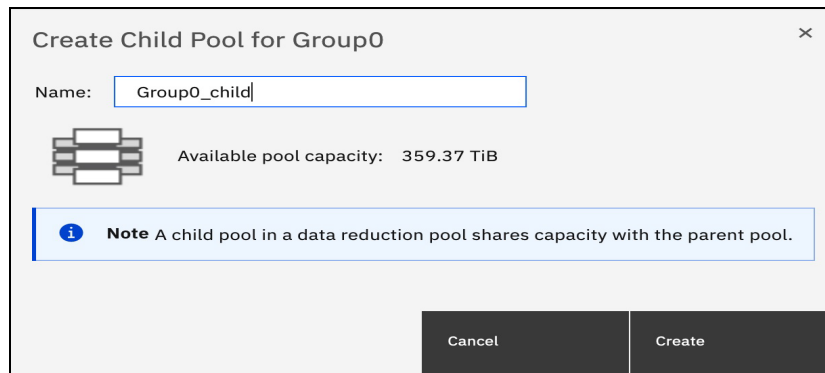

Figure 4-10 Create child pool page
2. Create a Data Reduction child pool, as shown in Figure 4-10 on page 148:
- d. Enter a name for the child pool, as shown in Figure 4-10.